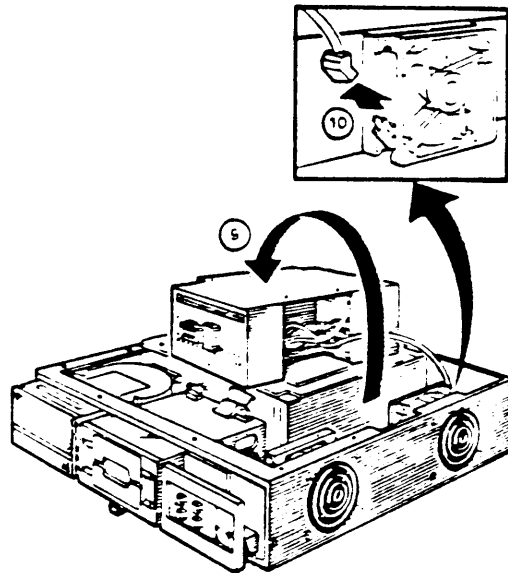

Figure 8-23 Remove Power Supply and Fan Connector
9. Lift the power supply assembly out of the chassis and rest it on top of the Q22 bus modules cover (Figure 8-23).